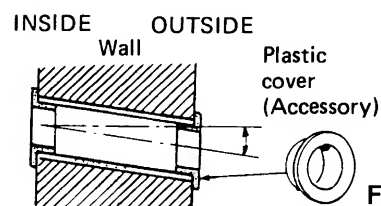

Fig. 9
g) Place plastic cover over end of pipe and insert in wall. Fig. 9